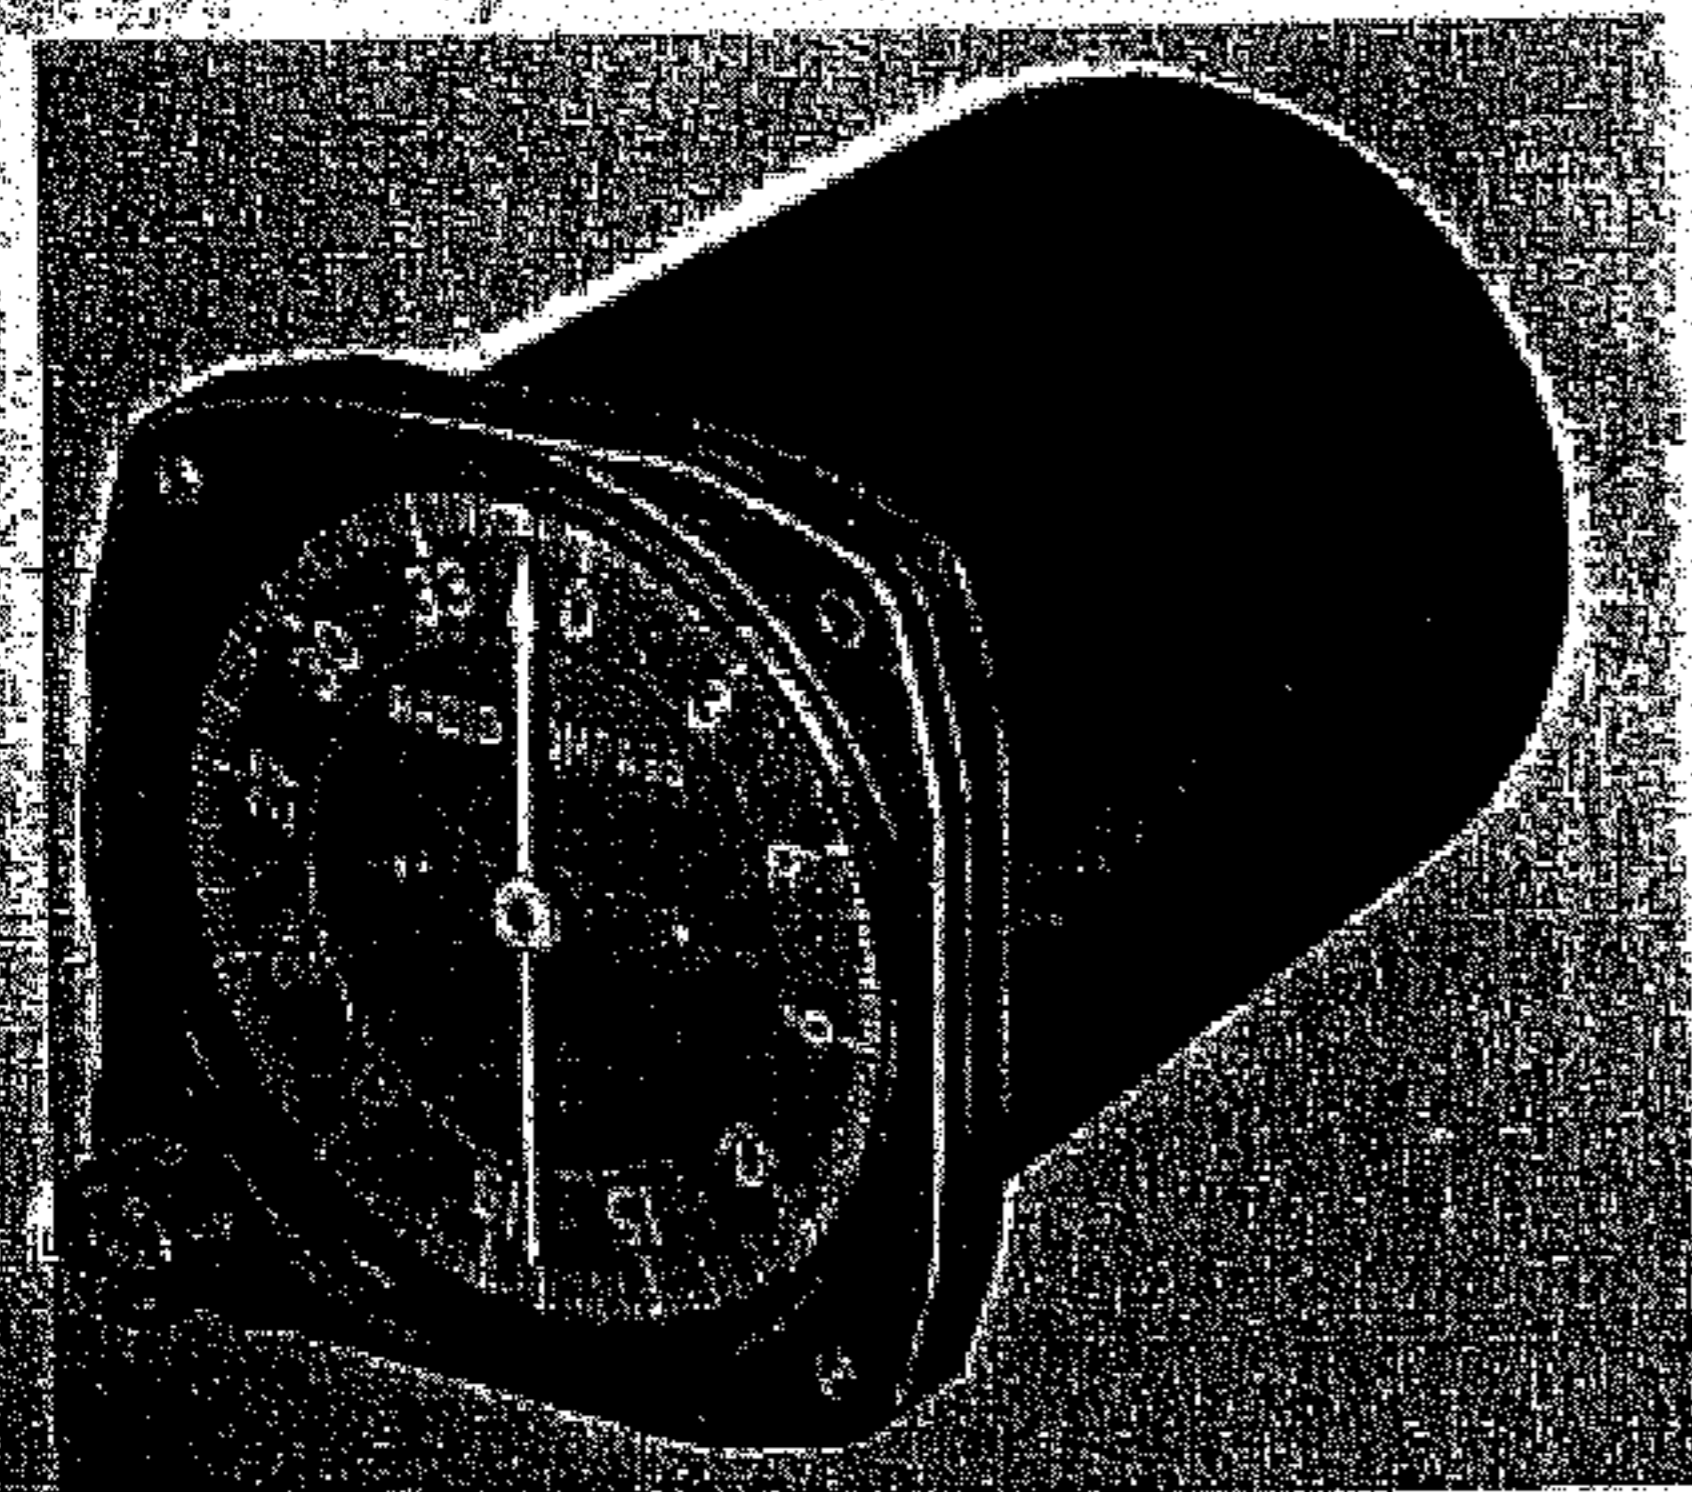

Figure 1-9. Indicator ID-90/ARN-6, ID-91/ARN-6, or ID-231/ARN-6
g. INDICATOR ID-90( )/ARN-6 (Pilot's). (See figures 1-9 and 1-10.)—Indicator ID-90( )/ARN-6 (Pilot's) is an autosyn driven device. It indicates the angular position of the autosyn transmitter located in the loop and gives the bearing of a radio transmitter when the loop is graduated every two degrees with every 30 degree graduation indicated by the proper numeral. The azimuth scale of the indicator may be manually rotated by means of the "VAR" knob located on the front of the indicator.